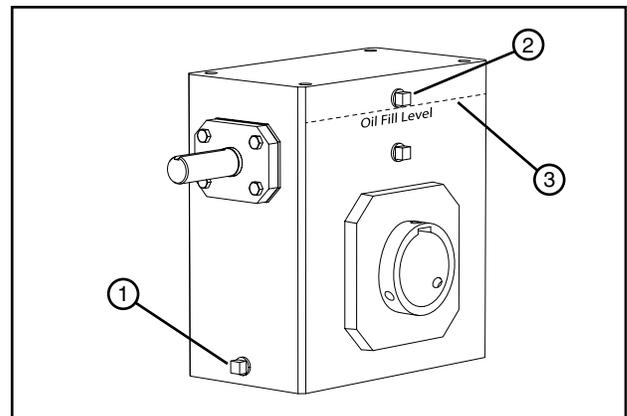

Figure 31-2 1. Drain Plug
4. Remove fill plug from gearbox. See Figure 31-2.
5. Fill gearbox with Valley Gear Lube to the fill line, approximately 2.5 Gal (9.5 L), shown in Figure 31-2. Allow time while refilling the gearbox for the oil to equalize in the gearbox. DO NOT over fill.